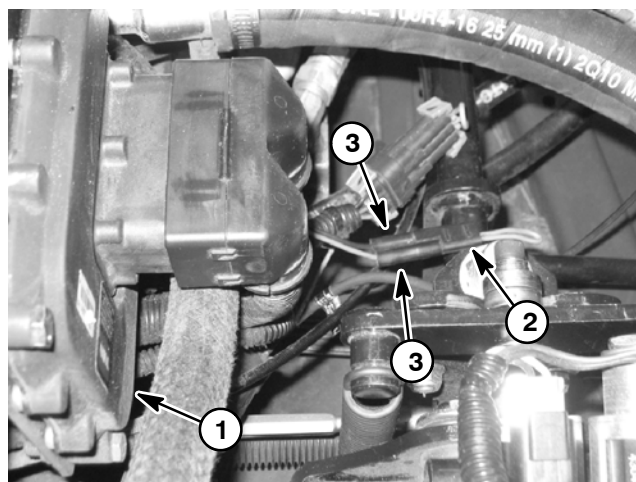

Figure 10
3. Locate diagnostic tether cap that connects the two (2) diagnostic shunt wires located under the operator seat (Fig. 10).